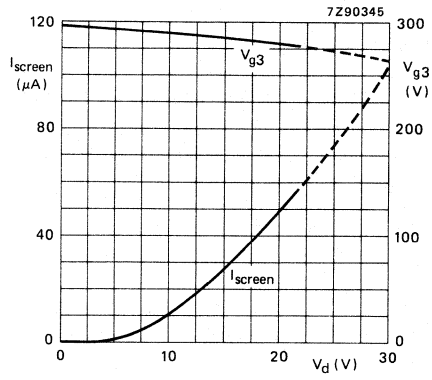

Fig. 5 Screen current ( $I_{screen}$ ) and focusing voltage ( $V_{g3}$ ) as a function of grid drive voltage ( $V_d$ ); typical curves.
5. An actual focus range of 30 V should be provided on the front panel.  $V_{g_3}$  decreases with increasing grid drive (see also Fig. 5).
6. Intensity control on the front panel should be limited to the maximum useful screen current (approx. 50  $\mu$ A; see also Fig. 5). It is to be adjusted either by the grid drive (up to 22 V) or for maximum acceptable line width. The corresponding cathode current or  $I_{g_2, g_4}$  (up to 500  $\mu$ A) depend on the cut-off voltage and cannot be used for control settings.